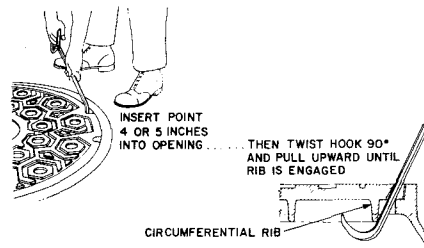

Fig. 9—Inserting Manhole Hook Into Hook Hole
- (1) Insert the manhole hook into one of the hook holes as shown in Fig. 9.
(1) Insert each manhole hook into adjacent holes in the rim as shown in Fig. 9. The hook can then be turned and raised to engage the rib (Fig. 34).